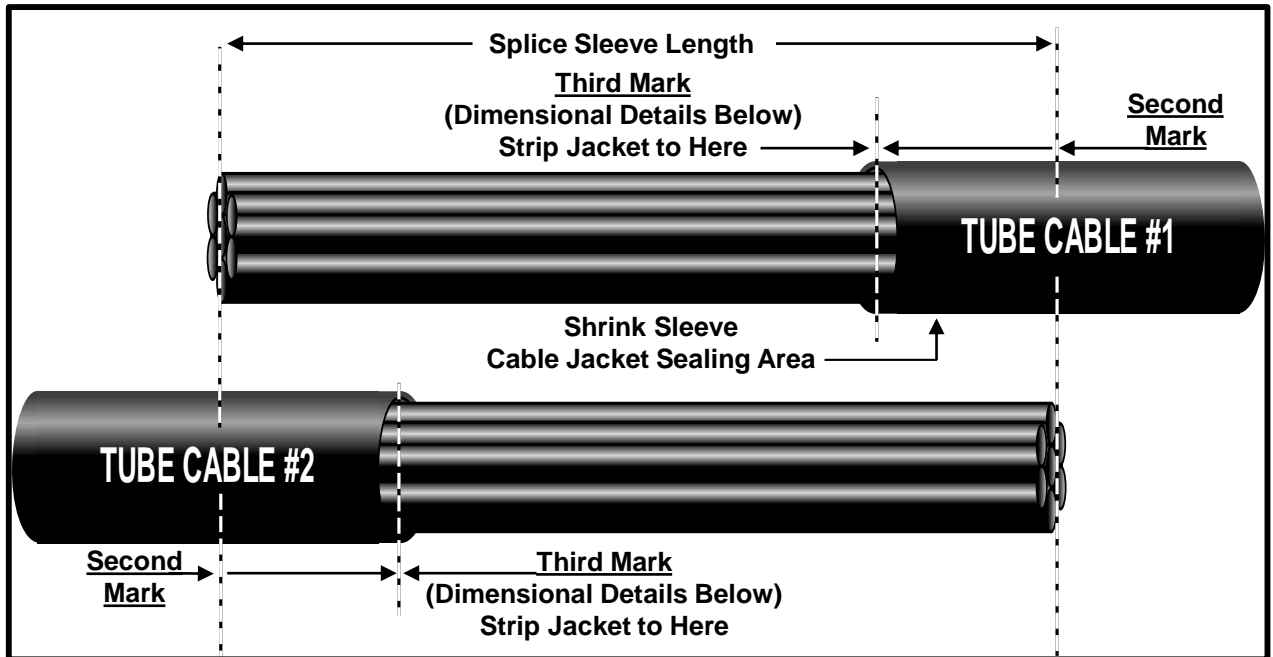

Figure 3
6.6.1 For 2 & 4-Tube Cables, measure approximately 2" forward from Second Mark and make a Third Mark on each Tube Cable jacket. **See Fig. 3.**
6.6.2 For 7 & 12-Tube Cables, measure approximately 6" forward from Second Mark and make a Third Mark on each Tube Cable jacket. **Refer to Fig. 3.**
6.6.3 For 19 & 24-Tube Cables, measure approximately 5" forward from Second Mark and make a Third Mark on each Tube Cable jacket. **Refer to Fig. 3.**